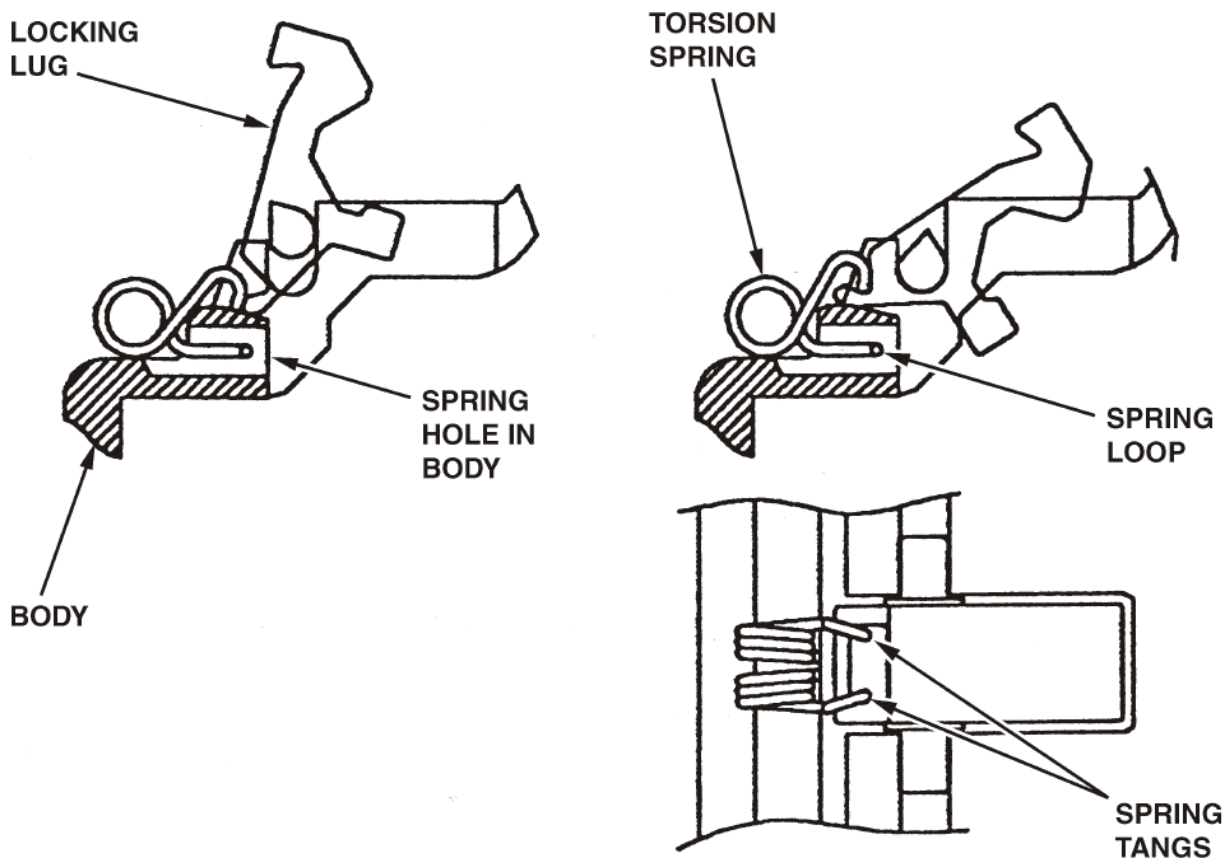

Figure 8. Installing the Springs and the Locking Lugs
1. If the bushing (14) was removed, press the new bushing into the bore of the body (2), until it bottoms out.
2. If the guard (1) was removed from the shroud (3), use tire levers to install a new guard on the shroud.
3. See Figure 8 and install the springs (23) and the locking lugs (25) in the body (2) as follows: